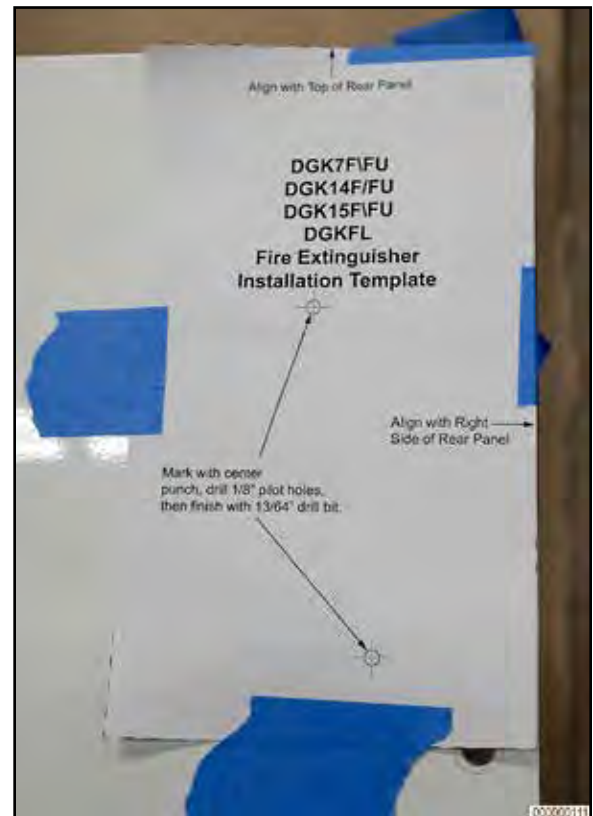

Figure 4
- **Step 7:** Align template on lower right corner of Enclosure Frame. Secure in place with masking tape. (Figure 4)